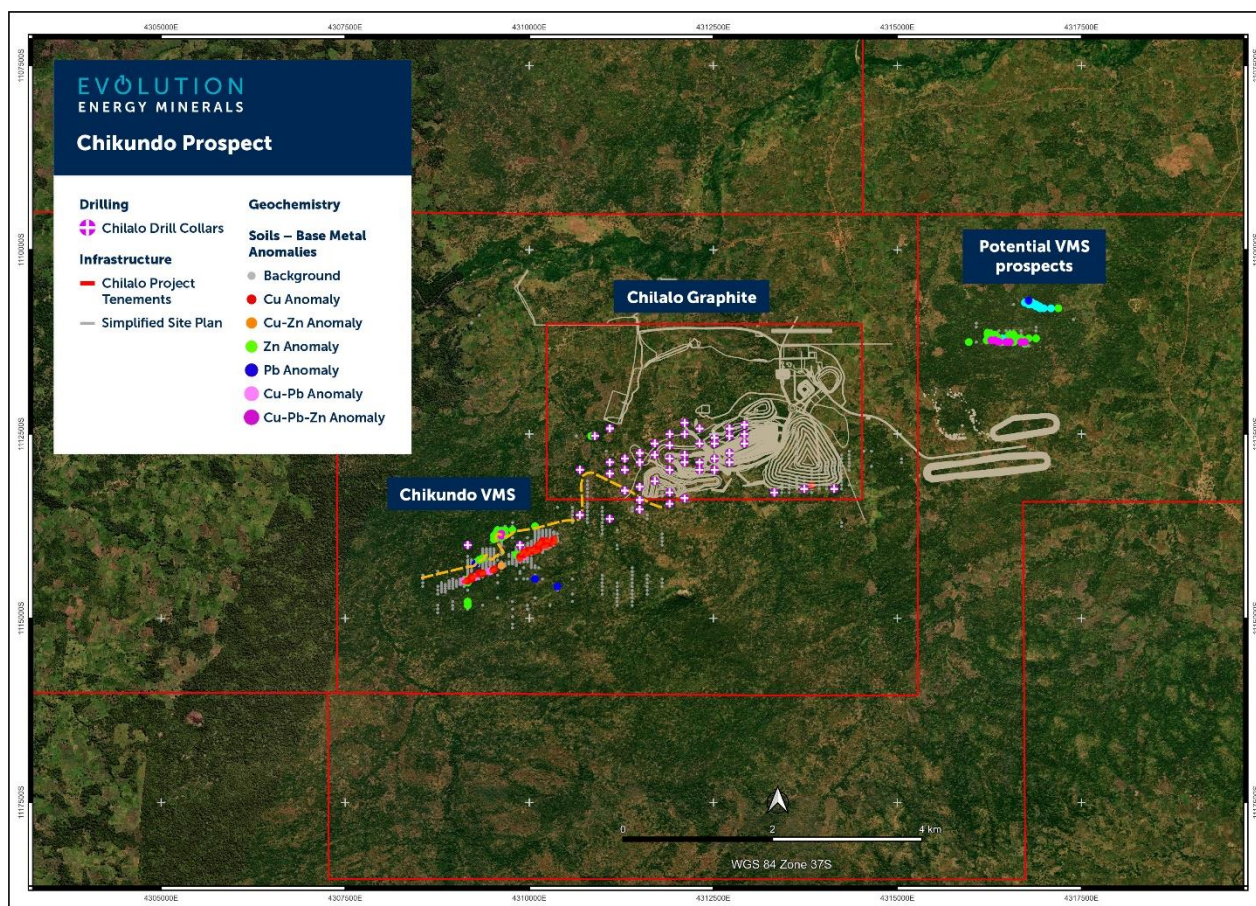

Figure 1: Location of the Chikundo Cu-Pb-Zn Prospect in relation to the Chilalo Graphite Project planned infrastructure
- Two other anomalies, one Cu-Pb-Zn and the other predominantly Pb-Zn, both located to the northeast of the Chilalo graphite project (**Refer Figure 1**), are also evident in soils data and will be progressively explored.
Diagrams	<ul style="list-style-type: none"> <li>Sample locations are shown in figures 1 and 2 in this announcement.</li> </ul>